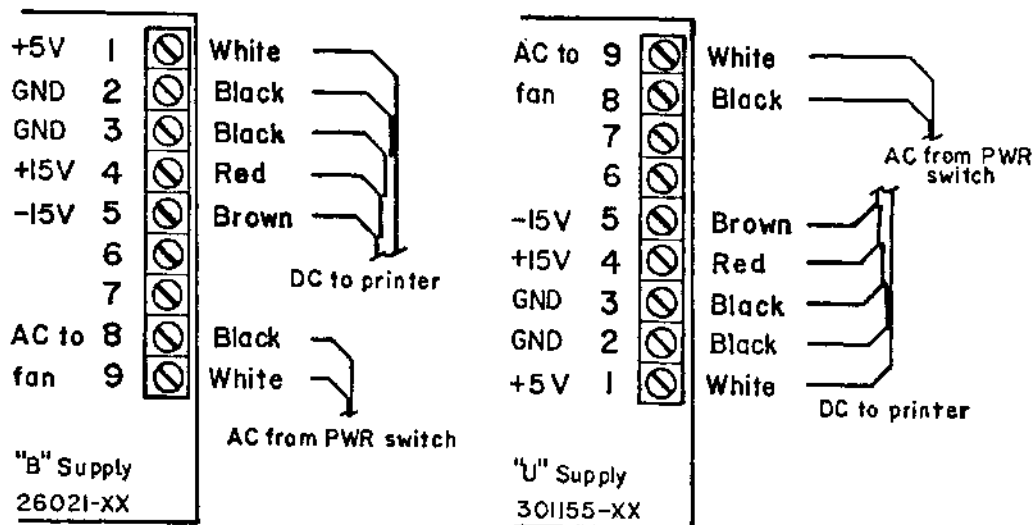

Figure 5-45 TB1 WIRING DIAGRAM
1. Position power supply alongside printer, with TB1 at left end as shown in Figure 5-44. Connect the DC power cable, AC power cable and fan motor power cable to terminal block TB1 according to the wiring diagram in Figure 5-45.